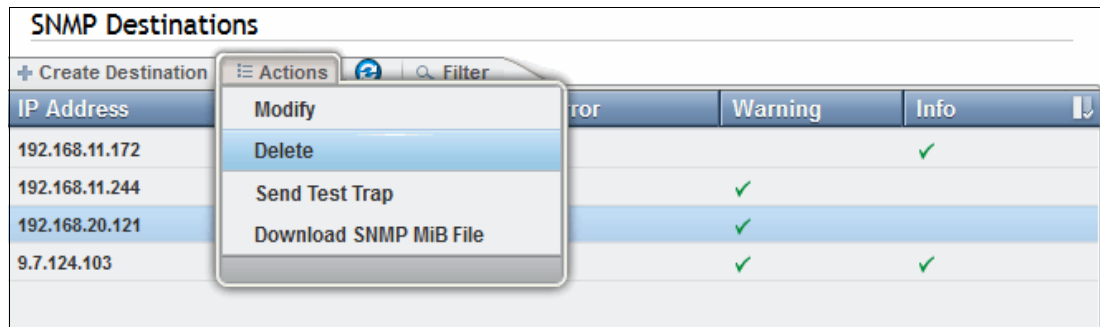

Figure 4-25 SNMP destination actions
- From the SNMP Destinations window, select **Actions** to modify or delete an existing destination server, send a test trap, or download the SNMP MIB file. Figure 4-25 shows these options.
To download the configuration MIB file, select **SNMP Destinations**, as shown in Figure 4-25. Then, select **Actions** → **Download SNMP MIB File**.